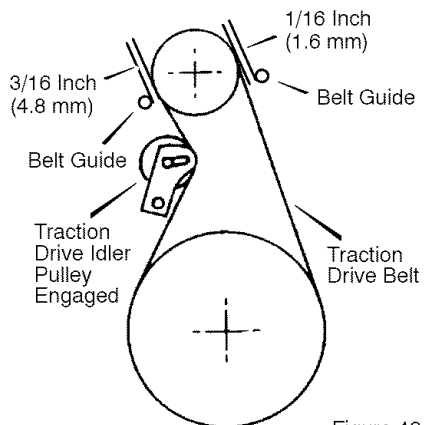

Figure 42
3. Measure the distance between the two **belt guides** and **traction drive belt**. Set the distance for the two **belt guides** as shown in Figure 42.